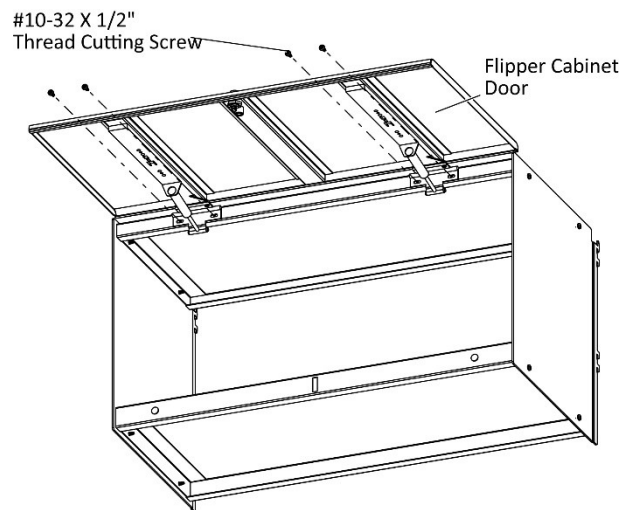

Figure 3
- 3. Securely fasten the flipper cabinet door to flipper cabinet top with #10-32 X 1/2" Thread Cutting Screw, (Figure 3).